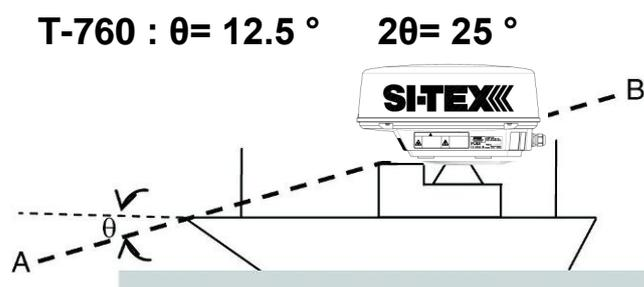

Fig. 1-3-2
- The installation height of the scanner relates to the maximum detection distance. The higher, the better. However, if it is too high, radio wave energy greatly attenuates above the scanner's vertical beam width (the point -3 dB from the peak of the main-lobe). As a result, it is difficult to detect a close-in target. Sea clutter also increases. Determine the installation height by taking into consideration the weight, maximum length of the cable, and maintenance after installation. If the installation height of the scanner is low, it is difficult to detect a long distance target. The ship's mast, derrick, and chimney interfere with radiating beam causing the range that cannot be viewed on the radar display to increase. Generally, the lowest scanner installation position is supposed to be on the A-B line shown in Fig. 1-3-2. In the case of the T-760 series radar,  $2\theta$  equals  $25^\circ$ . Specifically, the scanner position is normally elevated so that the chimney and the shrine-gate type mast do not interfere with radiating beam.